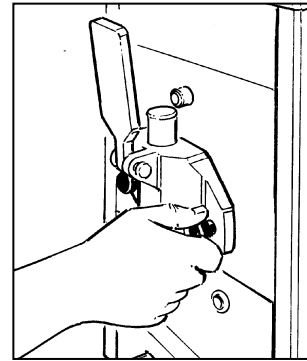

Fig. 16
- Unscrew the security knobs and remove the front flange (fig. 16 and 17).